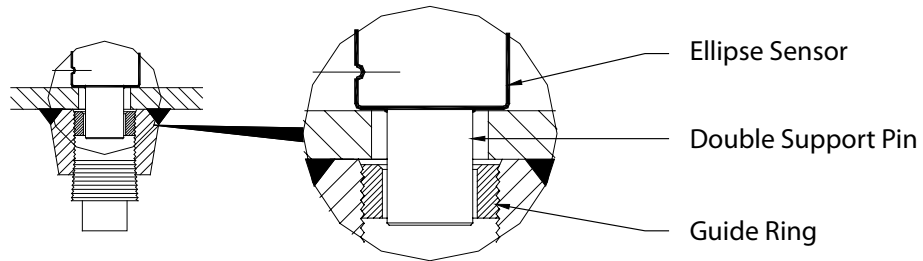

FIGURE 4 – Double Support Pin
3. Install the AHS Ellipse sensor through the two holes. Make sure that the double support pin passes through the guide ring. See **Figure 4**.